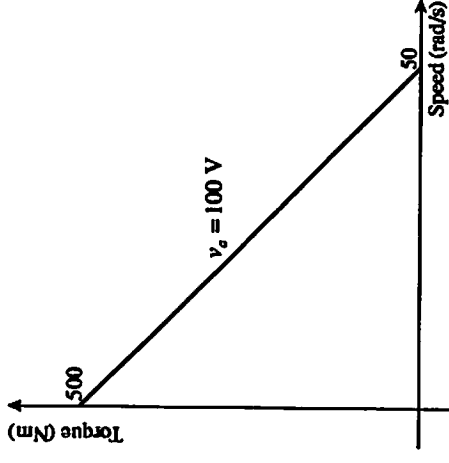

Figure 1:
**Example 1.1** For the motor with the torque-speed characteristic shown in Figure 1 find the transfer function  $\Theta(s)/V_a(s)$  for an armature-voltage controlled dc motor which drives a load with inertia  $700 \text{ kg m}^2$  and bearing resistance  $800 \text{ N m/(rad/s)}$  through a gearbox with gear ratio  $r = 10$ . The rotor inertia of the motor is  $5 \text{ kg m}^2$  and bearing resistance is  $2 \text{ N m/(rad/s)}$ .